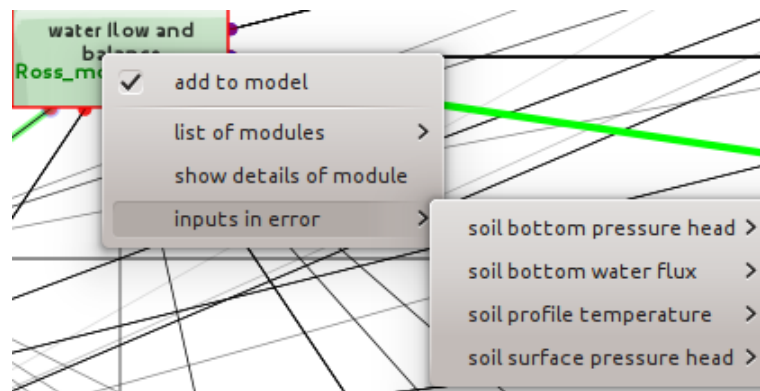

Figure 49: List of the inputs of a module not provided by upstream modules
**Error resolution** Position your mouse cursor on the graphical representation of the process/module in error (represented by a red rectangle) and display the context menu by right-clicking. Then position the mouse cursor on the “Missing inputs” item to display the list of all inputs not provided by upstream modules (see figure 49).
Then tick the box in front of the module you choose to provide this variable. This module and the process on which it depends are then added to the model. The list of missing entries to be processed is then modified: the one that has just been processed no longer appears (see figures 49 and 51).
In the example of the figures 49 and 51, it can be seen that the “soil bottom pressure head” entry no longer appears in the list of missing entries for the module implementing the “water flow and balance” process.